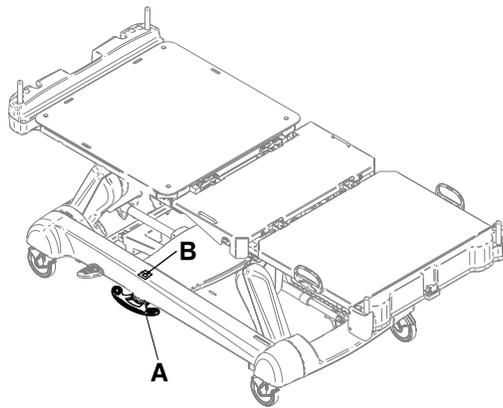

Figure 6: Brake pedal window
2. Fully depress the brake pedal (A) until **Brake** appears in the brake pedal window (B) (Figure 6 on page 17).
To release the manual brakes, depress the pedal until **Neutral** or **Drive** appears in the brake pedal window (B) (Figure 6 on page 17).